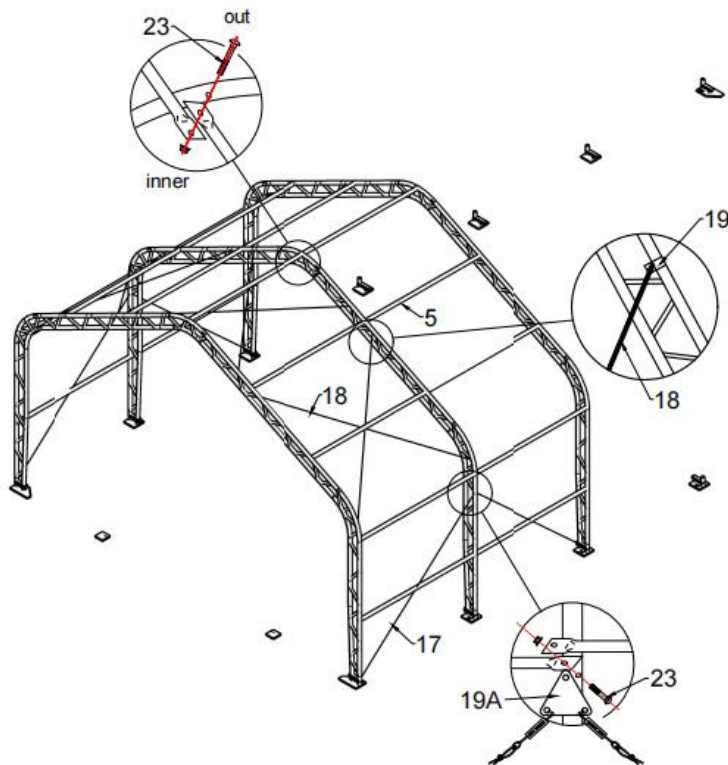

Figure 6
- Connect purlin (No.5) to arch by using carriage bolt 10x90mm (No.23) by turns (see Figure 6), then connect the steel wire (No.17 and No.18) on top and side by using clip (No.19).